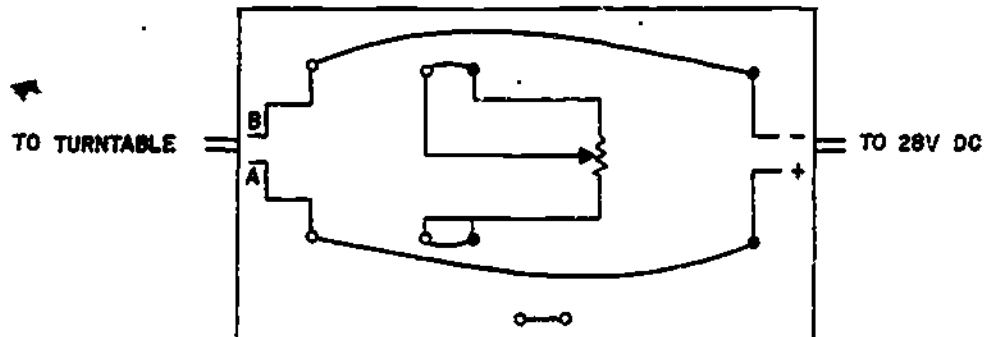

Figure 4. Power Control Panel Wiring Diagram.
(1) Wire the power control panel as shown in figure 4.
(1) Ensure that the power control panel is wired as shown in figure 4, and that it is plugged into a 28V DC outlet.
(2) Place the turntable directional control switch to either the L or R position, and the rate control knob to the 1,080 degree position.
(1) Ensure that the power control panel is wired as shown in figure 4 and that it is connected to a 28V DC outlet.
(2) Turn the rate table rate control to 180 degrees per minute. The pointer should deflect 5/16 \pm 1/32 of an inch.
(3) Record the pointer deflection on the blank provided.